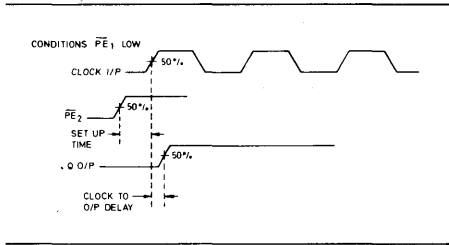

Fig. 3 Set-up timing diagram
- Set-up time is defined as the minimum time that can elapse between a L → H transition of a control input and the next L → H clock pulse transition to ensure that the -3 mode is forced by that clock pulse (see Fig.3).